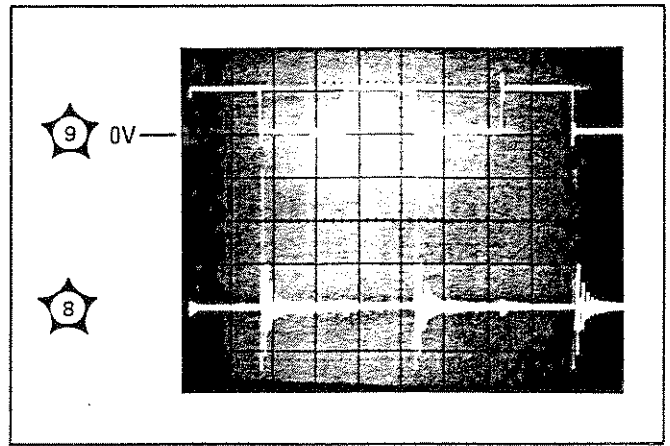

Figure 13. Pulse Input (A1TP9, 5V per division) vs. Waveform at A1TP8 (0.2V per division, ac coupled). Horizontal scale: 1 μs per division.
d. If the fall time cannot be adjusted to within specifications, use waveforms (Figures 13, 14, and 15) to troubleshoot U2, U4, Q3 and Q4.